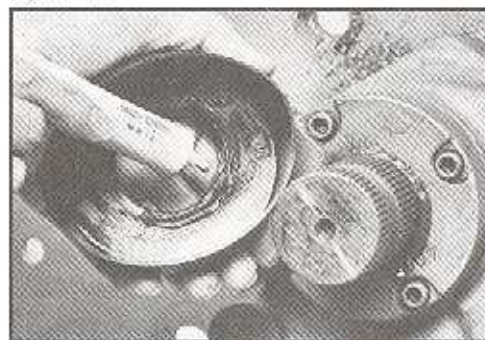

Figure 15
- 1.10 Pack clean high temperature industrial grease per Ross specification 045231, Mobil Temp. 1 or 2 or equivalent to protector seal (53) and install protector seal to sector shaft (46) and trunnion cover (52). SEE FIGURE 15.